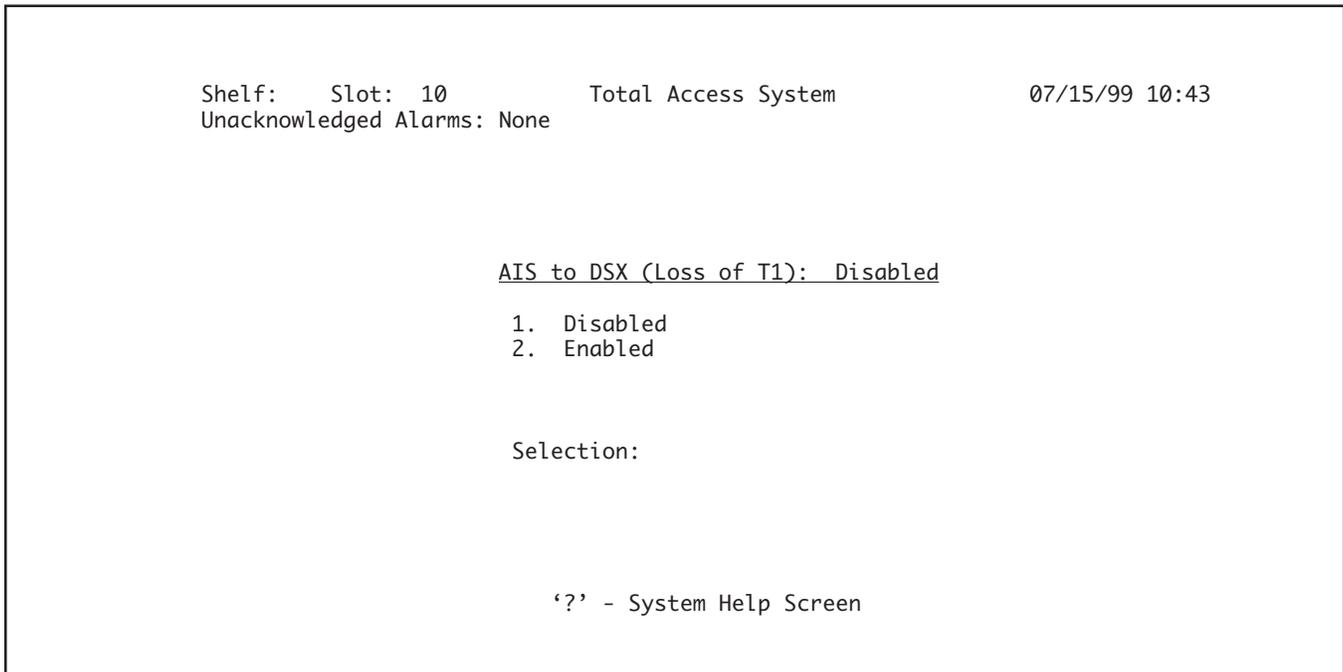

Figure 13. AIS to DSX (Loss of T1)
1. From the Provisioning of All Ports Screen, type “3” and press Enter to select AIS to DSX (Loss of T1). The AIS to DSX (Loss of T1) Screen (**Figure 13**) will appear.